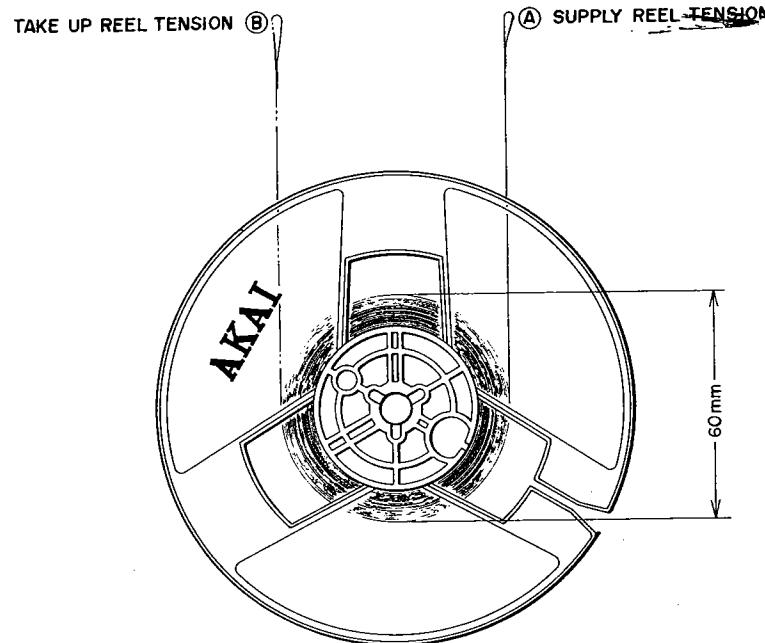

Fig. 11
For measuring the tension of each reel, it is ideal to use an empty 5" reel on which a tape has been wound to cover a 60 mm diameter as shown in Fig. 11.
Check and Adjustment (See Fig. 11- (A))
Check and Adjustment (See Fig. 11- (B))
- To measure the tension between felt (2) and rewind roller A (10), load the tape and at forward mode, gently pull end of tape upward with a spring gauge (Fig. 11- (B)) Ideal tension at this part is 400 to 500 gr. To adjust, increase or decrease the number of washers used. Also, if rotation is not smooth when turned by hand, replace felt.
- Felt (11) on take up roller D (12) is for the purpose of clutch between take up roller A (10) and take up roller D. Measure the tension at this part in the same way as outlined in paragraph (a). Ideal tension is 150 to 180 grams. Adjust by increasing or decreasing the number of washers used.
- At Rewind mode the tension (free tension) should be 15 to 20 grams. Adjustment can be made by increasing or decreasing the number of washers used and by moving set sleeve B (14) up and down and repositioning.